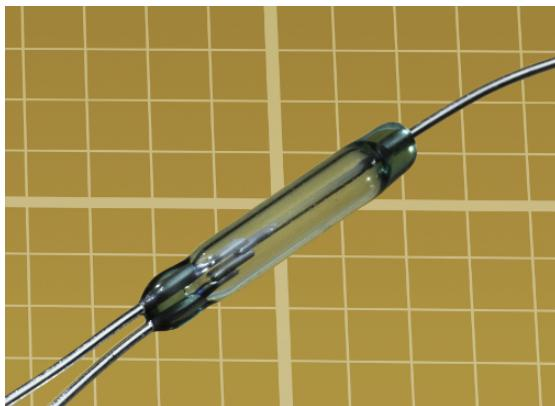

Figure 29-6. A single-pole, double-throw reed switch.
- SPDT and DPDT reed switches are available. Figure 29-6 shows a single-pole, double-throw reed switch. The pole of the switch is connected to the single wire at one end. The longer of the two wires at the other end is connected with the contact that is normally closed.